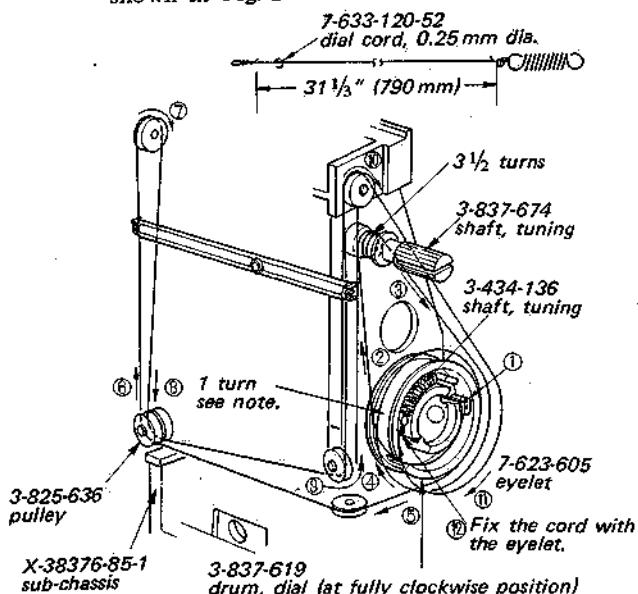

Fig. 2-11.
2. Cut the dial cord by the specified length as shown in Fig. 2-11.
1. Fix the dial cord to the protrusion (step ①) and string the cord in numerical order as shown in Fig. 2-11..